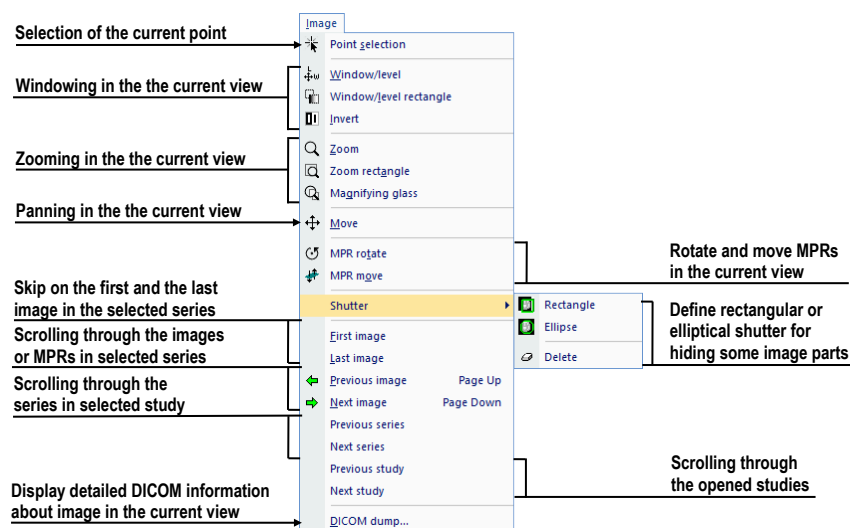

Figure 38 – Image menu
- **Image** – viewing and handling of the images. Contains a comprehensive group of functions for windowing and zooming images in a view, creating shutters and reading raw DICOM data of images (see Figure 38).